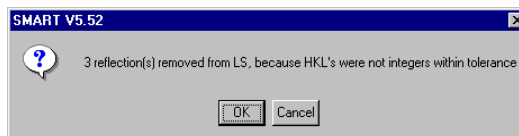

Figure 4-38. 3 reflections removed from LS
2. Change the Constraint field to Ortho and press OK. The program may remove a few of the poorest fitting reflections. The following removal message appears (Figure 4-38).